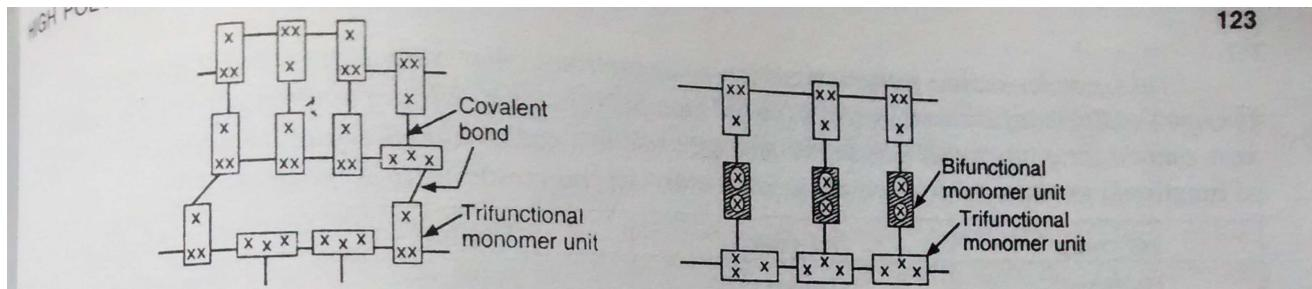

Fig. 3. Formation of a three-dimensional network polymer : (a) reaction of three-functional molecules, (b) reaction between two and three-functional molecules.
(3) In case of **polyfunctional groups**, monomer molecules are connected to each other by covalent bonds, resulting in the formation of a three-dimensional network. In such polymeric molecules, the movement of individual molecules is prevented by strong cross-links (see Fig. 3).